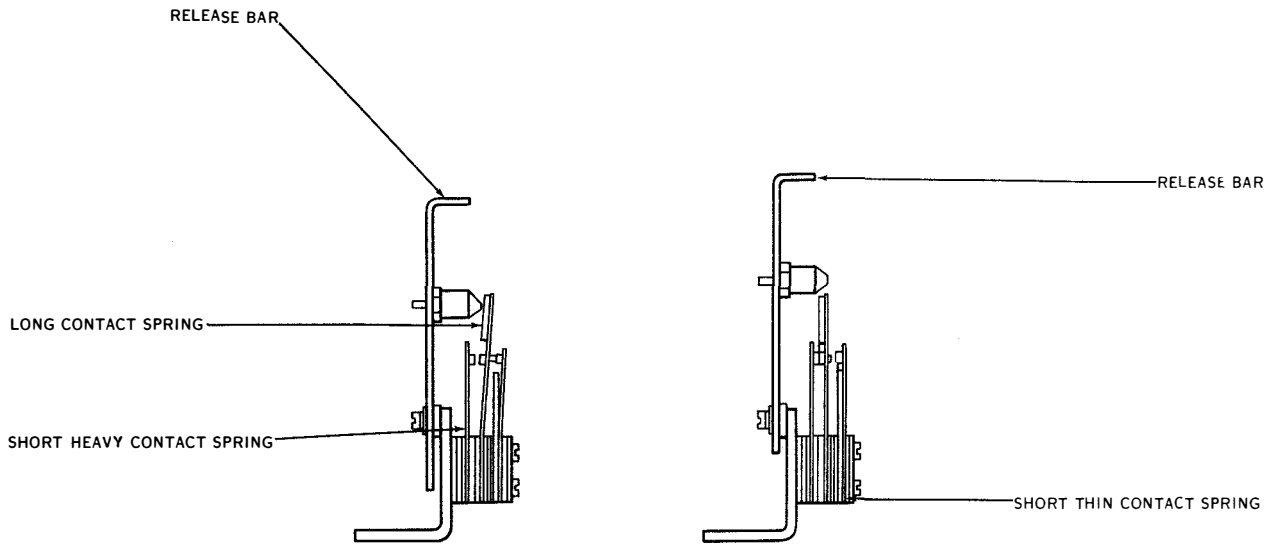

Figure 2-58. Manual Tape-out Contact
2-57) and a manually operated contact (see figure 2-58). When either contact is opened, operation of the unit will stop.
1. A stud extending from the right side of the release bar contacts a fiber block on the long contact spring and opens the points, stopping the transmitter (see figure 2-58).
3. A stud extending from the upper left-hand side of the release bar (see figure 2-58) actuates the